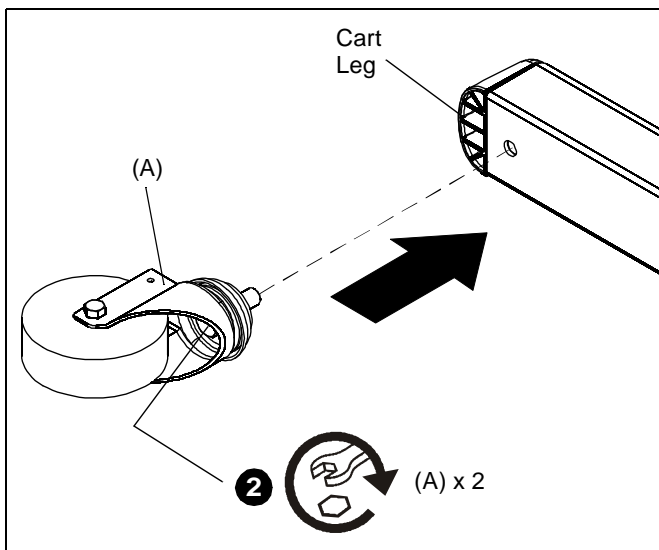

Figure 2
2. Place casters (A) on front of cart and tighten bolts. (See Figure 2)